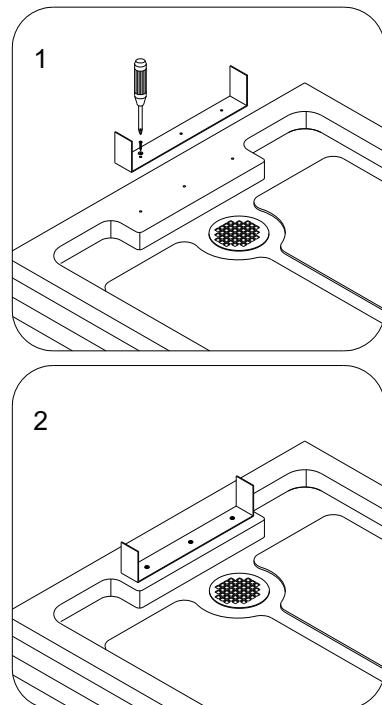

Fig. 8
1. Attach the **Retainer (36)** onto the tray using **Round head screws ST4.2x30 (22)** through the predrilled holes in the tray. See fig. 8 for details.